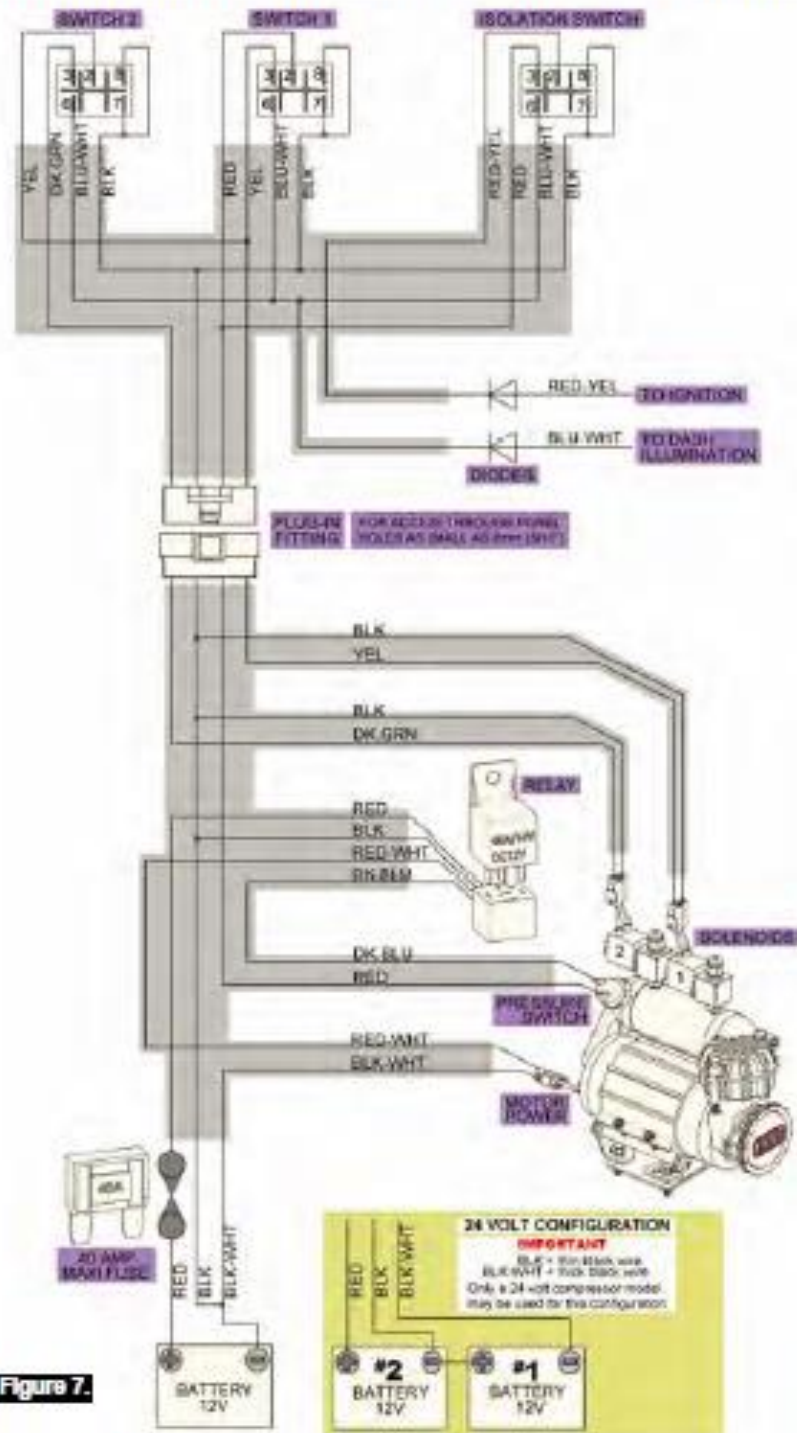

Figure 7.
When wiring an ARB compressor switch, Air Locker pressure switch, Air Locker actuator switch(es) and Air Locker solenoid(s) to an ARB Air Compressor, all connections can easily be set up using only the supplied wiring loom (ARB #180409 shown in Figure 7.)
- ☐ Consulting the wiring diagram (Fig.7.) for wire colors, and the switch terminal illustration (Fig.8.), plug each of the female spade terminals onto their appropriate switch terminal.
- ☐ Identify which battery in the system will be used as the 24V negative (-) terminal (i.e., Battery #1 in the wiring diagram Fig. 7.) by connecting a multimeter across the positive (+) terminal of one battery to the negative (-) terminal of the other battery. If you have tested the correct negative (-) terminal then you will read approximately 24 volts on the multimeter, and this battery will be battery #1, and the other battery with the positive (+) terminal you have just tested will be battery #2 (refer to wiring diagram Fig. 7.).
The following describes an effective procedure for tracing an electrical fault in a CKMA12 or CKMA24 compressor which has been wired using a genuine ARB wiring loom (refer to the diagram in Figure 7.). All steps must be performed in the order listed here for an accurate assessment.